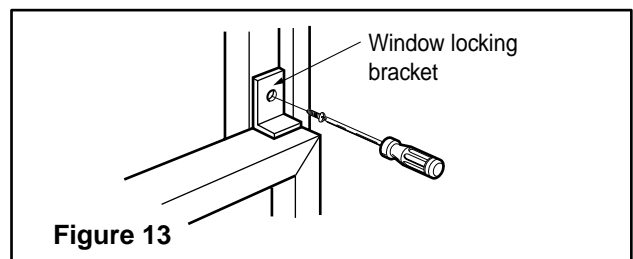

Figure 13
9. Attach the Window locking bracket with a screw (Type C). (See Fig. 13)